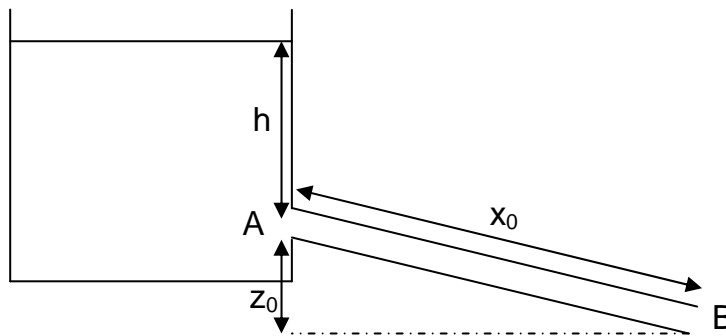

Fig. 2b
- (b) A constant-head reservoir, of S.A.E. 30 oil ($\mu=0.290\text{Ns/m}^2$, $\rho=917\text{kg/m}^3$) feeds the flow in an inclined pipe as shown in Fig. 2b. Given that $h = 3.0\text{ m}$, $z_0=0.5\text{m}$, $x_0 = 1.0\text{m}$ and $R = 0.01\text{m}$, find the maximum flow velocity U_{\max} in the pipe.